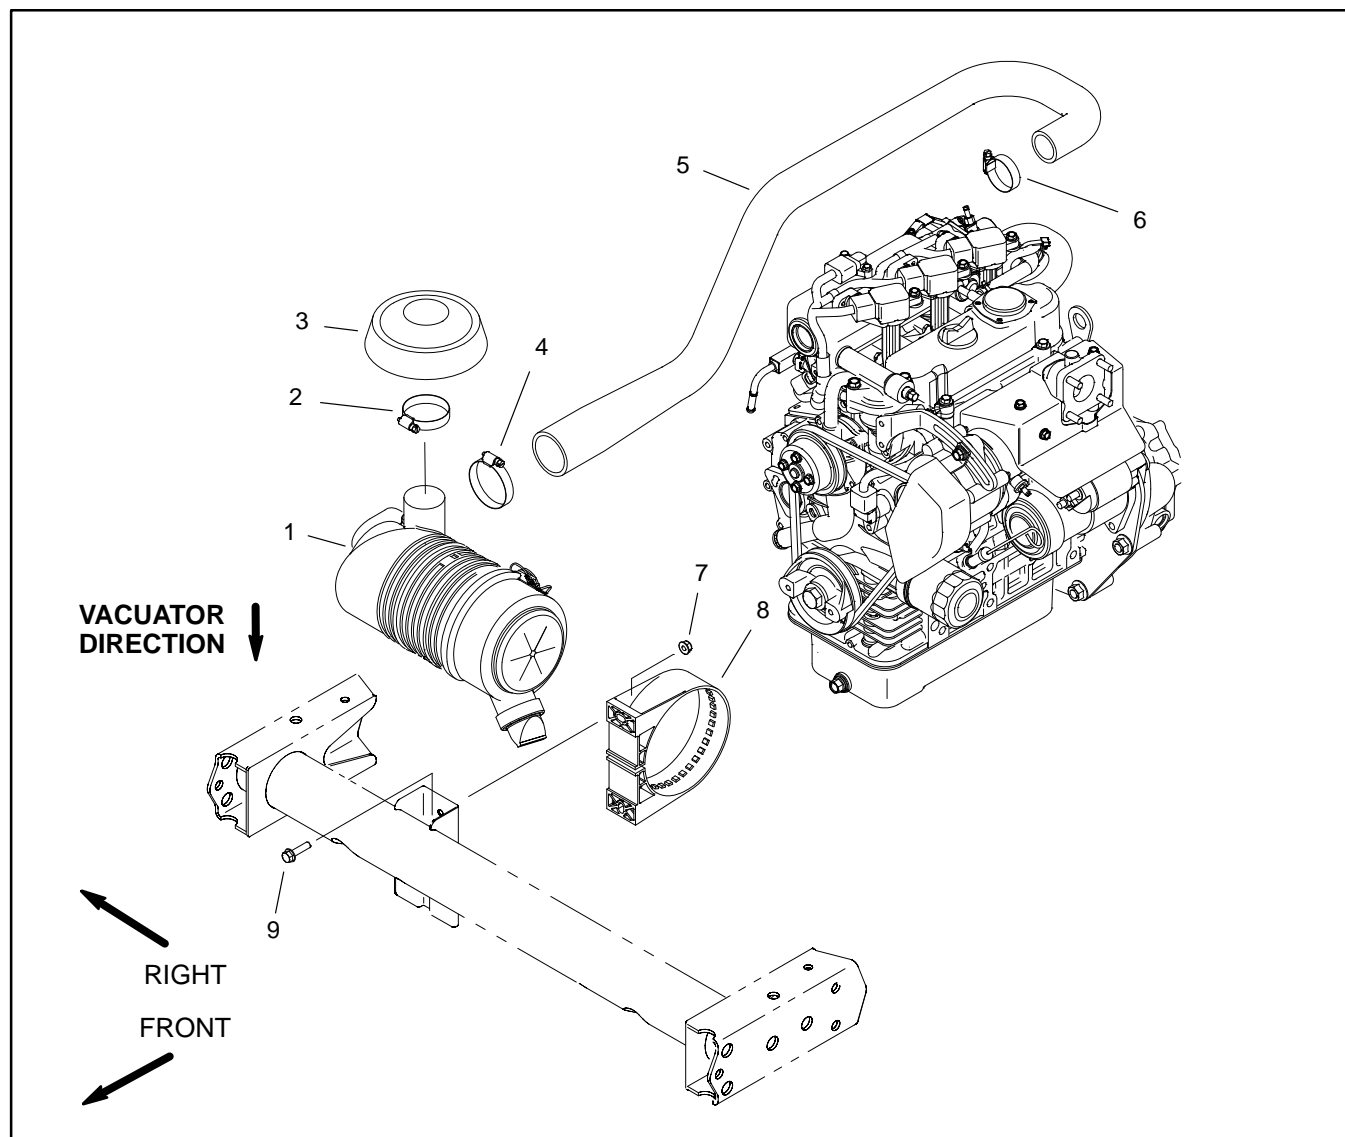

Figure 4
1. Assemble air cleaner system (Fig. 4). Air cleaner inlet hood should be positioned straight upward. The vacuator valve on the air cleaner assembly should be positioned downward.